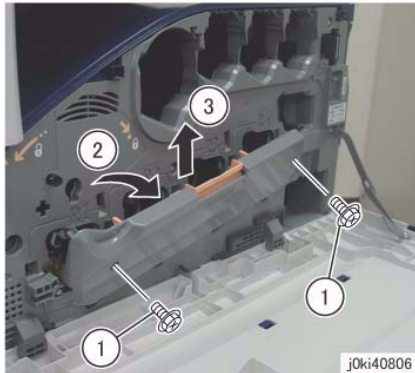

Figure 1 Remove the Drum Cover
4. Remove the Drum Cover. (Figure 1)
- b. Open the Drum Cover up to the position in Figure 1 .